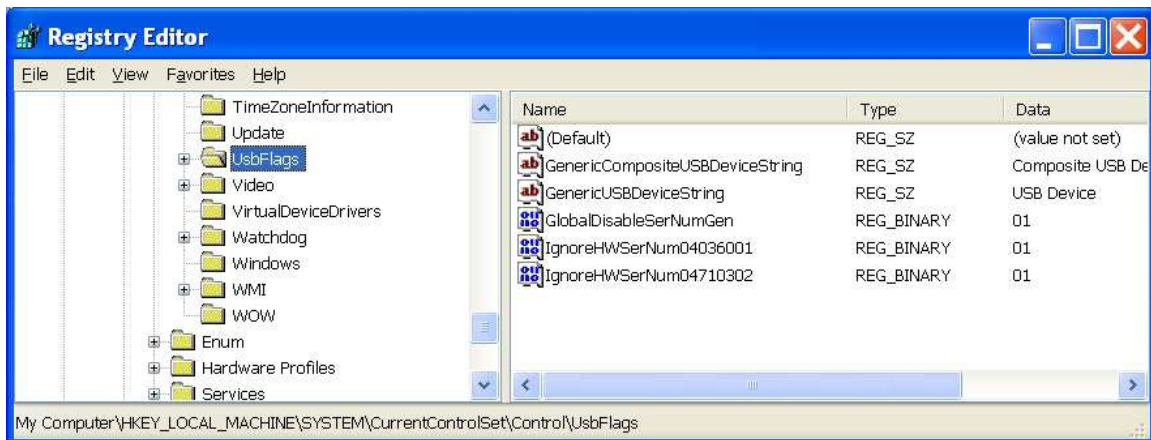

Figure 5-12
11. Add the 2 digits "01" (without quotes) to the dialog box and click "OK". Ignore what's already in the dialog box, just add the 2 digits. The results will resemble the display in figure 5-12.